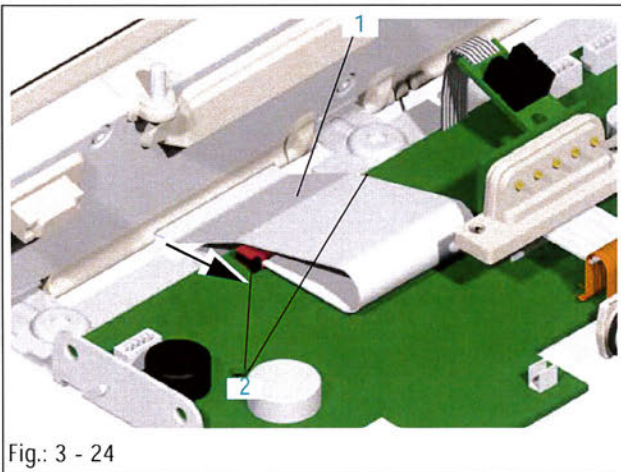

Fig.: 3 - 24
1. Push the right and left connector lock (Fig.: 3 - 24 / Item 2) on the processor PCB carefully rearward.
2. Disconnect the operating unit ribbon cable (Fig.: 3 - 24 / Item 1) from the processor PCB.
Legend to fig. 3 - 24: